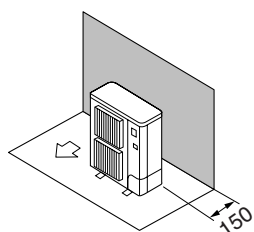

Fig. 2-2
- ① Solo ostacoli posteriori (Fig. 2-2)